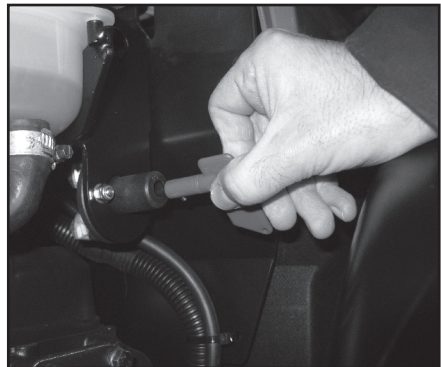

Fig. 5.9
- The switch releases and can be removed when turned again in the anti-clockwise direction (Fig. 5.9).